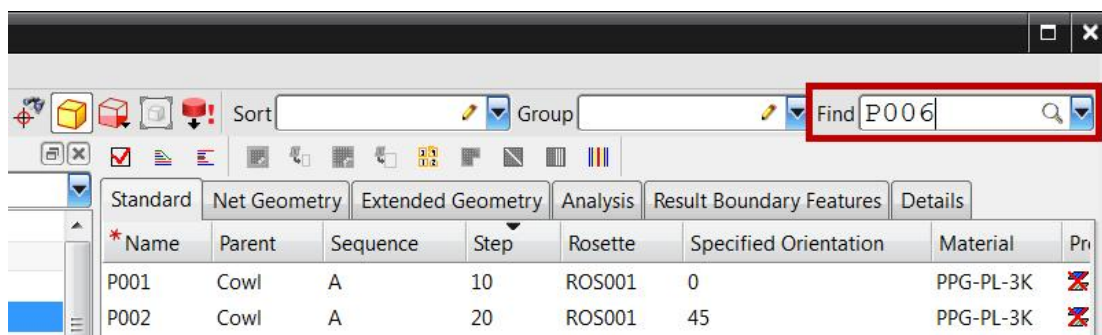

Figure 1–9
2. The object list should be updated as shown in Figure 1–9.
3. Note that the Status Bar at the bottom indicates the number of objects that are selected, shown, and available as shown in Figure 1–10.